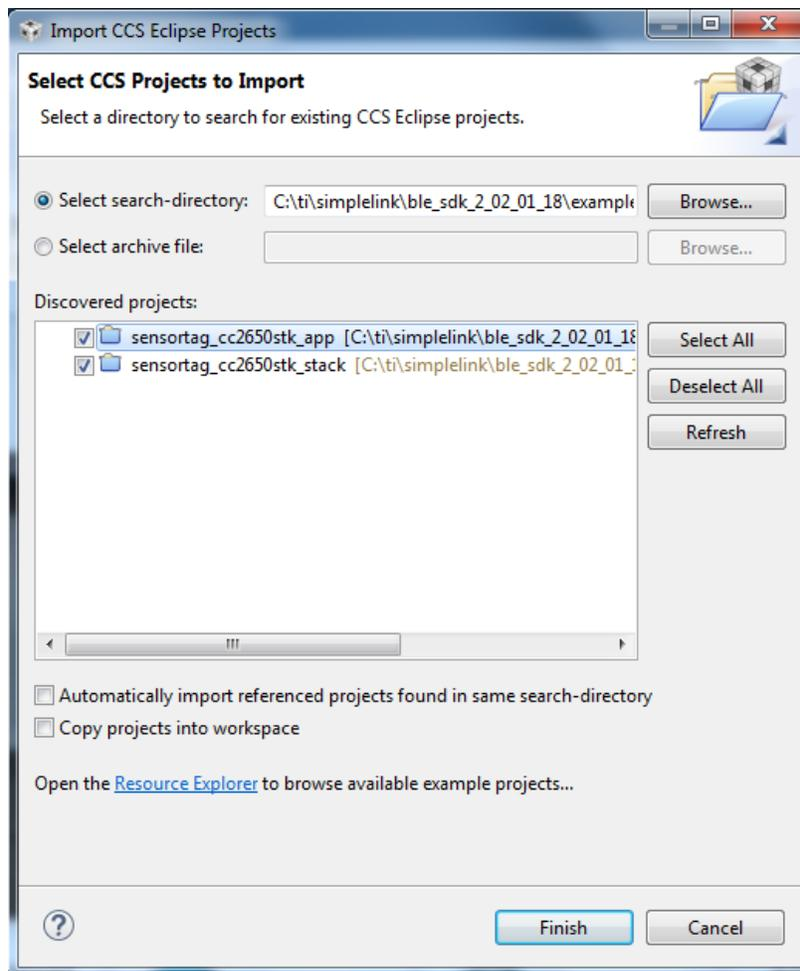

Figure 28, Select CCS Projects to import
- d. The Select CCS Project to Import page should now be open. (Figure 28)
- g. The `sensortag_cc2650stk_app` and `sensortagcc2650stk_stack` projects should appear in the Discovered projects box (Figure 28).
- h. Check the box for each project (Figure 28).
- i. Make sure that “copy projects into workspace” box is unchecked (Figure 28).
- j. “Automatically import referenced projects found in same search-directory” box can be checked or unchecked (Figure 28).